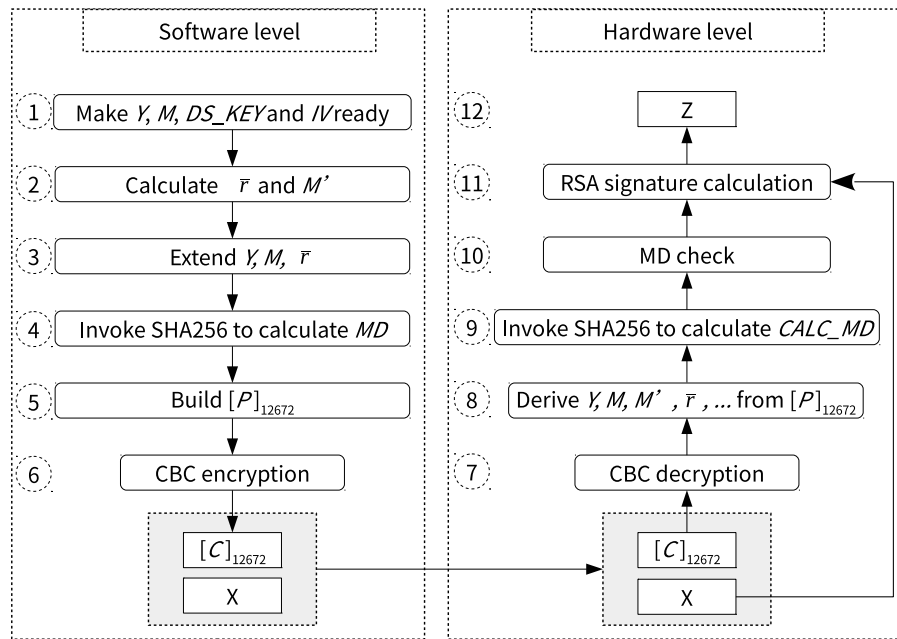

Figure 22.3-1. Software Preparations and Hardware Working Process
1. The software preparation (left side in the Figure 22.3-1) is a one-time operation before any signature is calculated, while the hardware calculation (right side in the Figure 1-1) repeats for every signature calculation.
Users need to follow the steps shown in the left part of Figure 22.3-1 to calculate C . Detailed instructions are as follows:
1. Decryption: Step 7 and 8 in Figure 22.3-1
The decryption process is the inverse of Step 6 in figure 22.3-1. The DS peripheral will call AES accelerator to decrypt C in CBC block mode and get the resulted plaintext. The decryption process can be represented by $P = \text{AES-CBC-DEC}(C, DS_KEY, IV)$, where IV (i.e., $[IV]_{128}$) is defined by users. $[DS_KEY]_{256}$ is provided by HMAC module, derived from $HMAC_KEY$ stored in eFuse. $[DS_KEY]_{256}$, as well as $[HMAC_KEY]_{256}$ are not readable by users. For more information, please refer to Chapter 21 HMAC Accelerator \(HMAC\).
2. Check: Step 9 and 10 in Figure 22.3-1
The DS peripheral will perform two checks: MD check and padding check. Padding check is not shown in Figure 22.3-1, as it happens at the same time with MD check.
3. Calculation: Step 11 and 12 in Figure 22.3-1